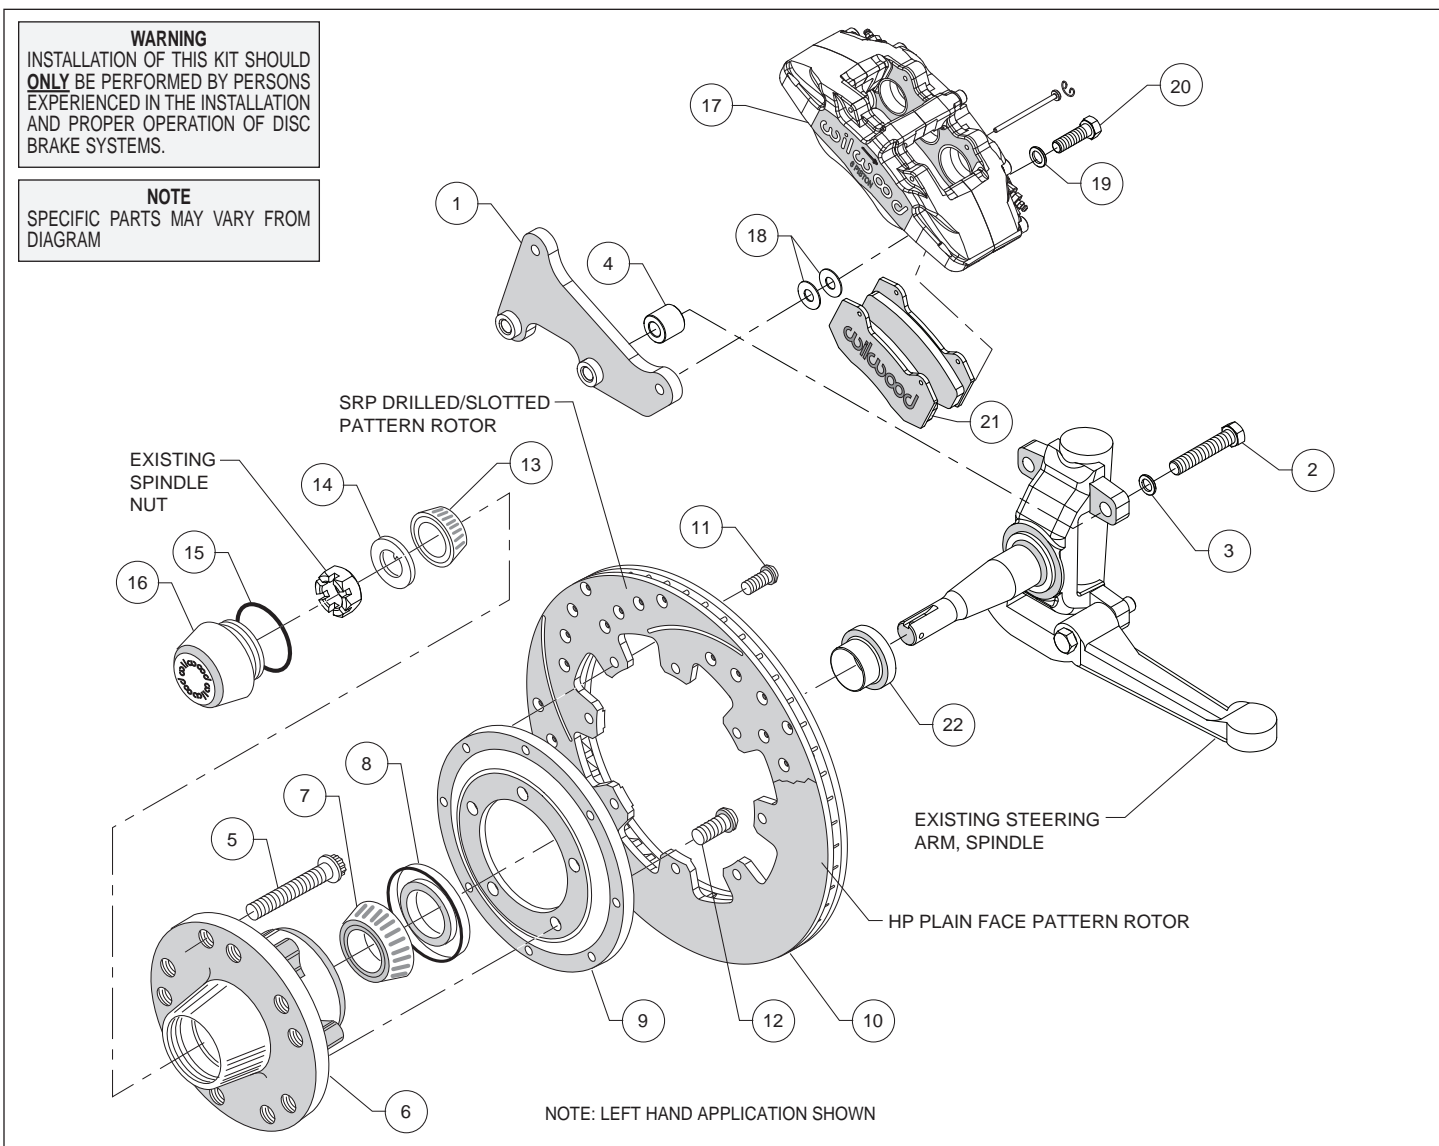
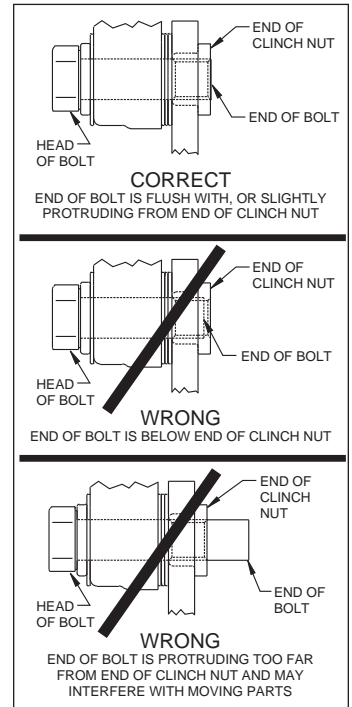

Figure 1. Typical Installation Configuration
Figure 3. Clinch Nut Engagement Diagram
Assembly Instructions (numbers in parenthesis refer to the parts list and Figure 1 on the preceding pages): **CAUTION:** All mounting bolts must fully engage clinch nuts. Be sure to check that all bolts are either flush or protruding through flanged side of clinch nut after shimming, Figure 3.
- Orient the caliper mount bracket (1) as shown in Figure 1, and install using bolts (2) and washers (3). Place a spacer (4) on each bolt between the bracket and caliper mounting bosses, Figure 1. Ensure that the flanged heads of the clinch nuts in the bracket are facing outboard. Temporarily tighten the mounting bolts. **NOTE:** The bracket must fit squarely against the mount bosses on the upright. Inspect for interference from casting irregularities, machining ridges, burrs, etc. Remove bolts one at a time, apply red *Loctite*[®] 271 to the threads and torque to 70 ft-lb.
- Slide the inner bearing spacer (23) onto the spindle with the larger O.D. facing inward, Figure 1 and Photo 1.
- Install wheel studs (5) into the hub (6), Photo 2. Torque to 77 ft-lb. **NOTE:** There are two five lug patterns in the hub (5 x 4.75 and 5 x 5.00). Ensure the correct hub stud pattern is being used to fit the wheel application.
- Pack the large inner bearing cone (7) with high temperature disc brake bearing grease (available from your local auto parts store) and install into the backside of the hub (6), Photo 3.
- Install the grease seal (8) by pressing into the backside of the hub (6), flush with the end of the hub, Photo 3.
- Orient the rotor (10) and the rotor adapter (9) as shown in Figure 1 and Photo 4. Attach the rotor to the adapter using bolts (11). Using an alternating sequence, apply red *Loctite*[®] 271 to the threads, and torque to 25 ft-lb.
- Mount the adapter/rotor assembly (9/10) to the hub (6) using bolts (12), as shown in Figure 1 and Photo 5. Using an alternating sequence, apply red *Loctite*® 271 to the threads, and torque to 55 ft-lb.
- Screw dust cap (16) into hub (6), Photo 7. Friction created by the o-ring (15) on the dust cap keeps it from unscrewing. **NOTE:** The O.D. of the existing OEM spindle washer may be larger than the I.D. of the dust cap not allowing it to seat against the hub face. Therefore, use the spindle washer (14) supplied with the kit instead of the OEM washer.
- NOTE:** Please reference the caution statement at the beginning of the assembly instructions. This kit contains distinct right and left hand calipers that must be mounted in a specific direction, as described below. Mount the caliper (17) onto the caliper mounting bracket (1) using bolts (20) and washers (19), as shown in Figure 1. Initially place two .035" thick shims (18) on each bolt between the caliper and the bracket, Photo 8. Ensure that the caliper is mounted so the largest pistons are at the rotor exit end of the caliper, in relation to the direction of rotor rotation. Temporarily tighten the mounting bolts and view the rotor (10) through the top opening of the caliper. The rotor should be centered in the caliper, Photo 9. If not, adjust by adding or subtracting shims between the bracket and the caliper. Always use the same amount of shims on each of the two mounting bolts. **NOTE:** The end of each bolt must be flush with or slightly protruding from the head of the clinch nut, as shown in Figure 3. If necessary place spare shims between washer (18) and caliper mounting ear to achieve the proper clinch nut engagement. Later, after the calipers are bled the mount bolts will be secured using red *Loctite*® 271.
- Remove the two pad retaining pins from the caliper (17) by carefully popping out the pin retaining clips and sliding out the pins. Insert the brake pads (21) into the caliper from the bottom, Figure 1 and Photo 10, with the friction material facing the rotor. Secure the brake pads in place with the pad retaining pins and clips, Photo 11. Reinstall the caliper onto the caliper mounting bracket. Apply red *Loctite*® 271 to bolt threads (11), and torque to 35 ft-lb.